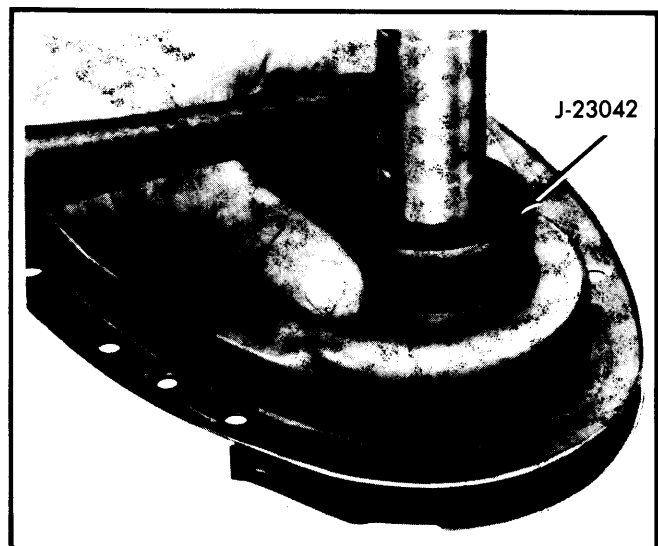

Fig. 6 Front Cover Oil Seal Installation
**Installation** — Install new seal with open end toward inside of cover. Use seal aligner and installing tool J-23042 (or equivalent) to drive seal into position. See Fig. 6.